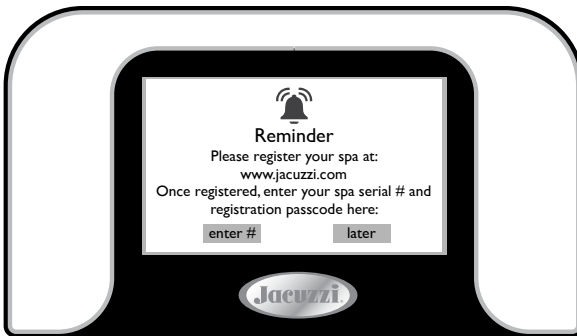

Figure 10.2a
1. From the registration screen, Figure 10.2a, tap **enter #** to enter the spa serial number.